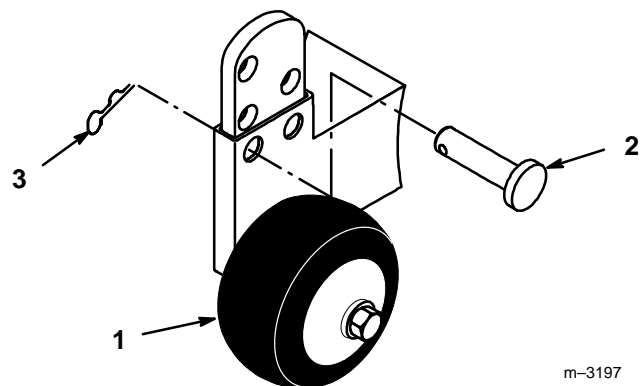

Figure 10
2. Remove hairpin cotter and pin to change hole location (Fig. 10).
3. Select a hole position so the gage wheel is 3/8" (9.5 mm) off the ground for the height-of-cut to be used (Fig. 10).